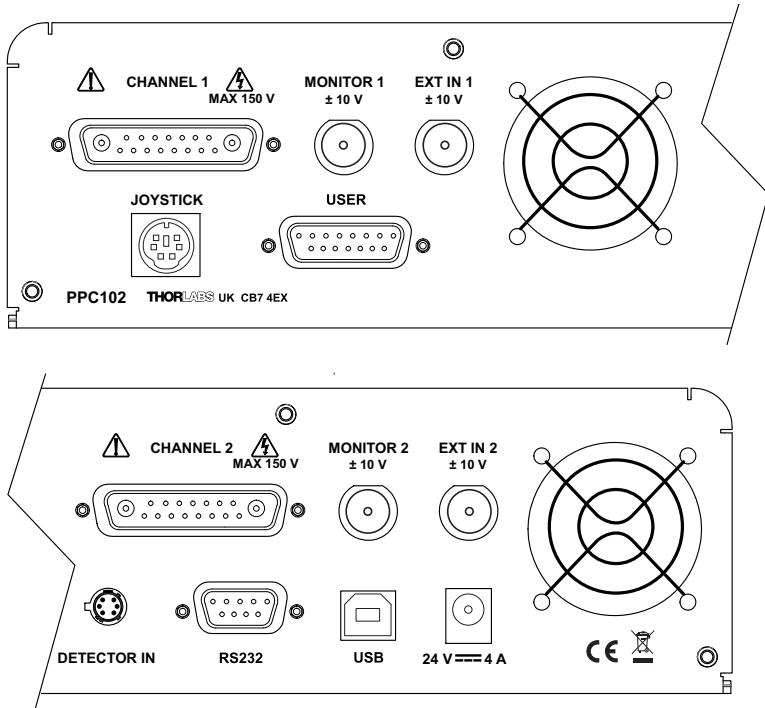
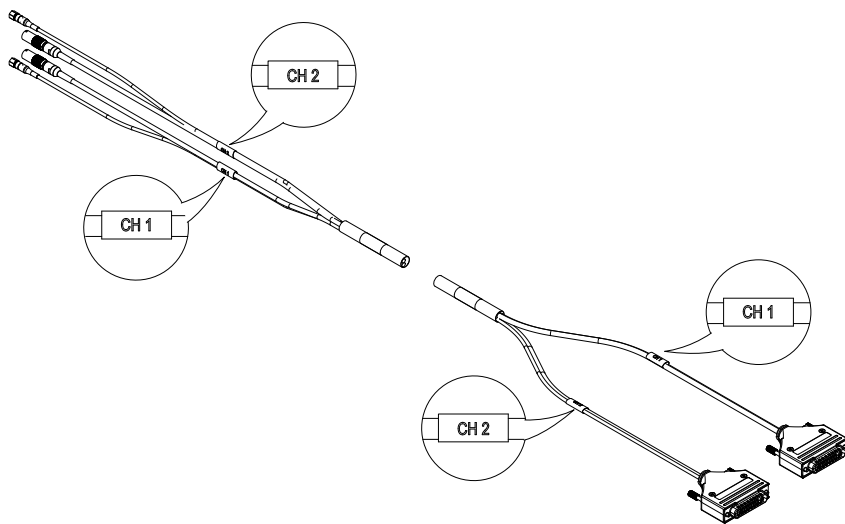

Fig. 3.5 Rear panel connections
Fig. 3.6 Cable Connection Details
- 2) Connect the gimbal mount to the Controller unit - see Fig. 3.5 and Fig. 3.6.